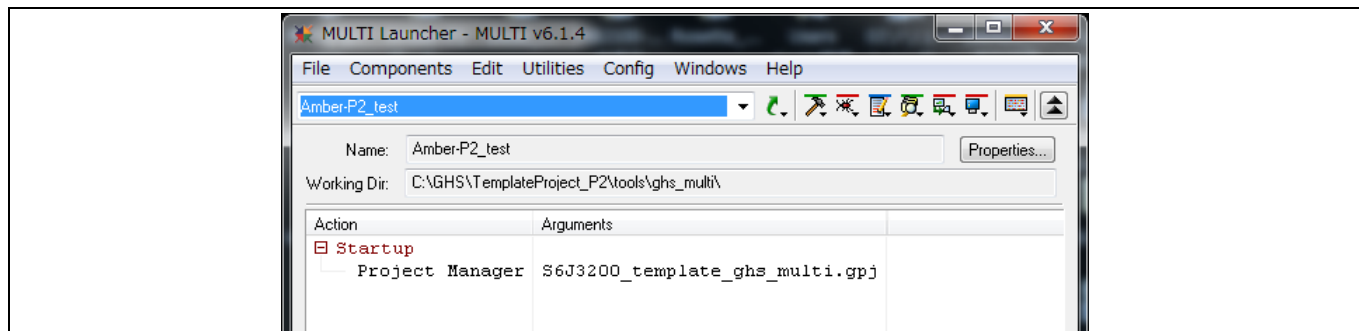
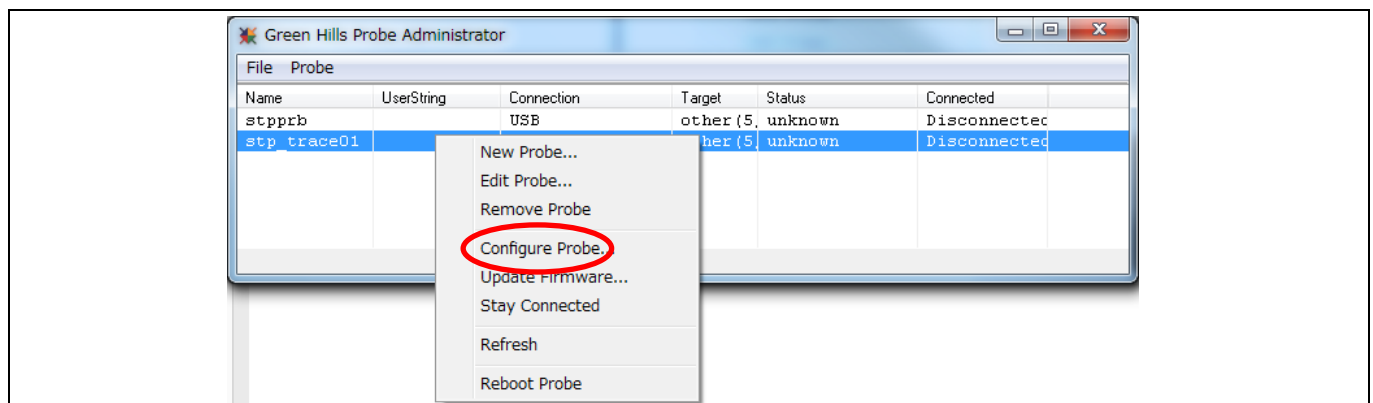

Figure 5 GHS MULTI - MULTI launcher window
Figure 11 Configure probe startup
1. Start the GHS MULTI, and open the **MULTI Launcher** window, as shown in Figure 5.
- Open the **Probe Administrator** of the GHS MULTI (Figure 5) and select **Configure Probe...**, as shown in Figure 11.